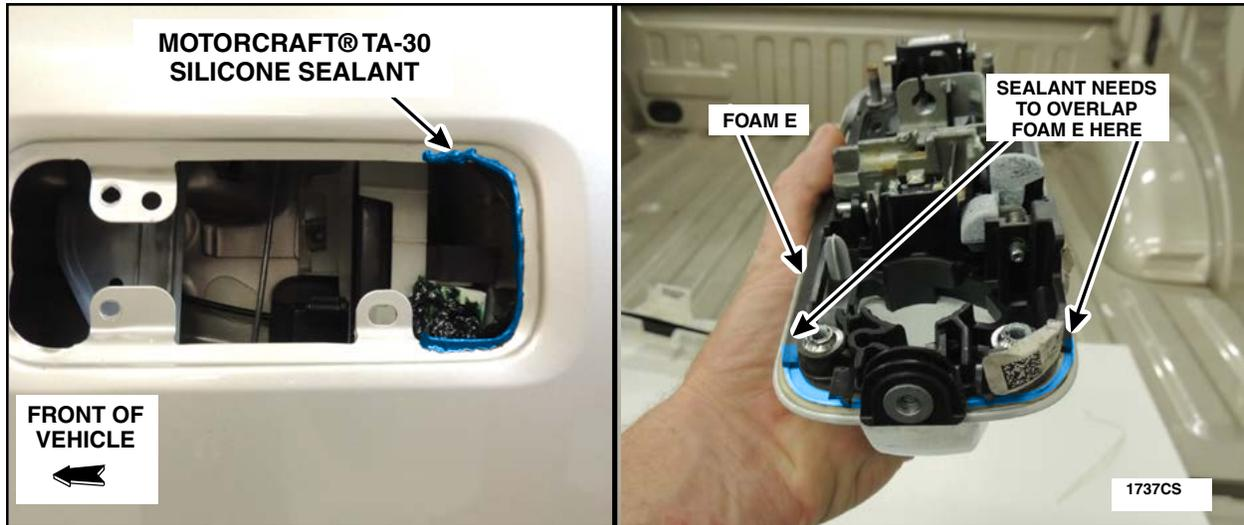

FIGURE 19
21. Reapply a bead of Motorcraft® TA-30 silicone sealant to the latch side area of the front door exterior handle opening making sure that the sealant will overlap with the Foam E on the exterior door handle. See Figure 19.